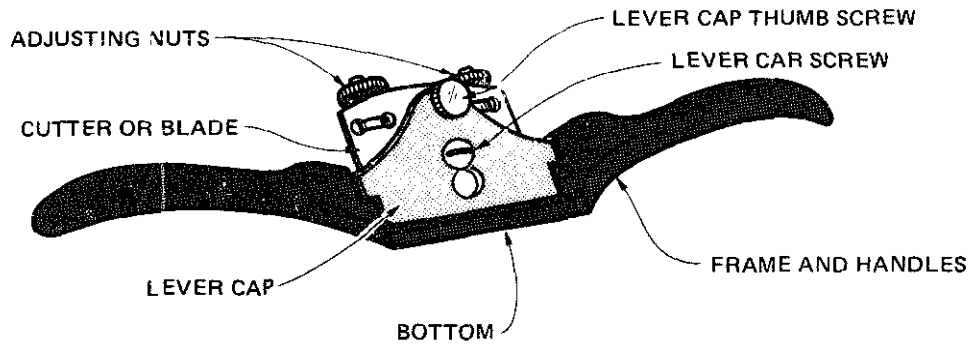

Fig. 8-77 The spokeshave.
- The *spokeshave*, figure 8-77, is a short-bottomed plane. The cutting action is the same as a plane. It can be used to follow convex and concave curves.